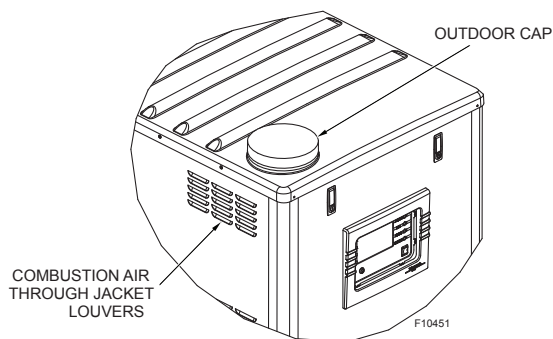

Figure 12. Outdoor Combustion Air
1. Install combustion air duct to the Air Intake Connection. See **Figure 4** and **Figure 12**. Remove and discard the outdoor cap and extend the combustion air duct through the top to connection to combustion air duct. Seal the joint and fasteners with RTV (not supplied). All ducting shall be self-supporting.